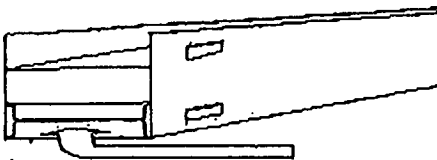
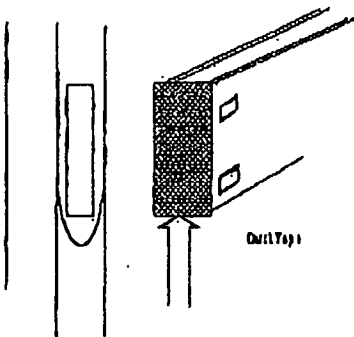

FIG. 5
FIG. 6
Step 3. Starting at the corner, end or gate post, slide the metal insert into the bottom rail (fig. 5). If the rail is going into a post that will be filled with concrete, seal the end of the rail with duct tape to prevent concrete from flowing into it (fig. 6).